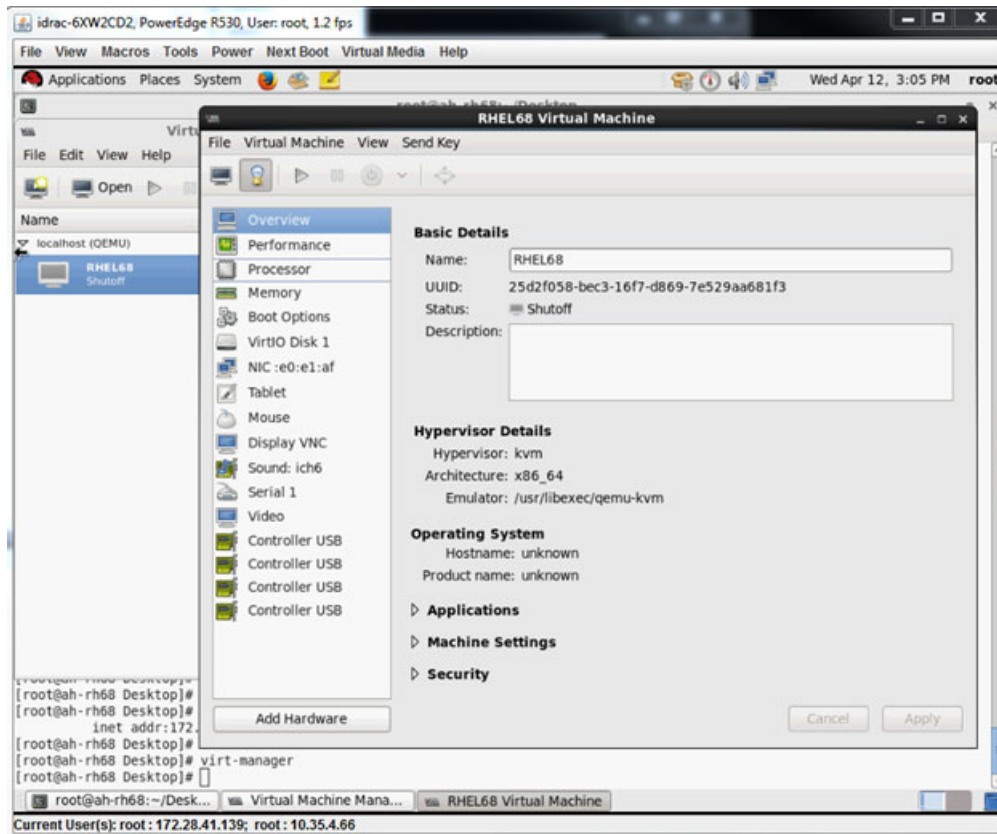

Figure 12-13. RHEL68 Virtual Machine
- a. In the Virtual Machine dialog box (Figure 12-13), click **Add Hardware**.